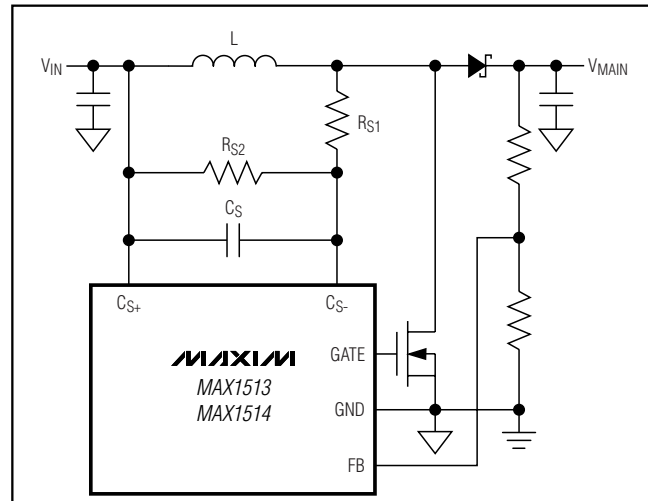

Figure 9. Lossless Current Sensing with $V_{SENSE} > 100mV$
5) If V_{SENSE} is greater than 100mV, the current-feedback signal is too high and can trip the current limit before the full load current is delivered. Use the current-sense configuration in Figure 9 to attenuate the sense signal. Define the scale factor (SF) as:
Because V_{SENSE} would be greater than 100mV , the circuit in Figure 9 should be used and the scale factor is: